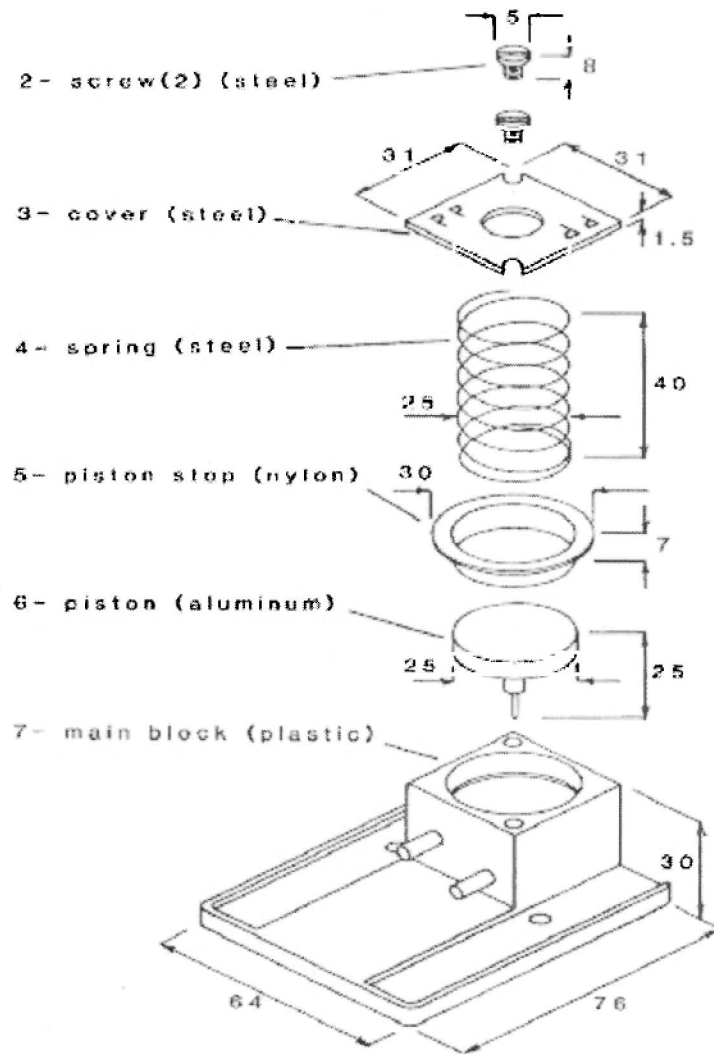

FIGURE S1 : Pneumatic Piston Sub-assembly, dimension in mm
- S1** (a) Name all the label/value **A – K** in **Table 1** and calculate the design efficiency for Pneumatic Piston in **Figure S1**. Given that costing is RM15.00 per hour.
- (b) Based on initial design in **Figure S1**, you want to make some modifications to improve the design, what part you want to eliminate or modify and why?